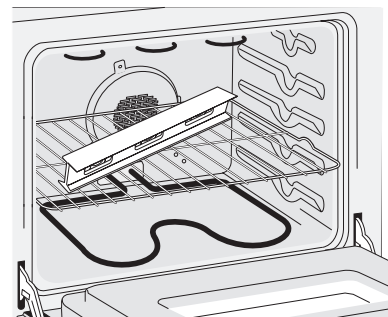
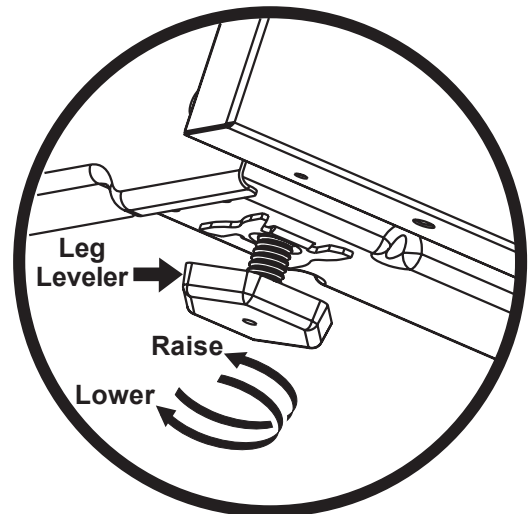

Figure 10
Figure 17
3. Check if the range is level by installing an oven rack in the center of the oven and placing a level on the rack (Figure 10).
2. Place a level on the rack (see Figure 10). Take 2 readings with the level placed diagonally in one direction and then the other. Level the range, if necessary, by adjusting the 4 leveling legs with a wrench (see Figure 17).